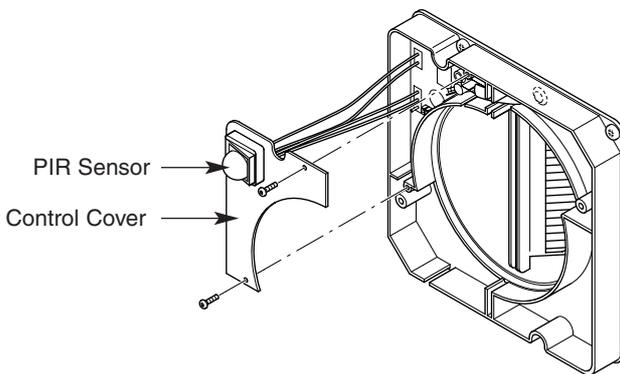

Fig. 31
18. Hold the control cover adjacent to the unit (Fig. 31) and reconnect the plugs to the control board as follows: